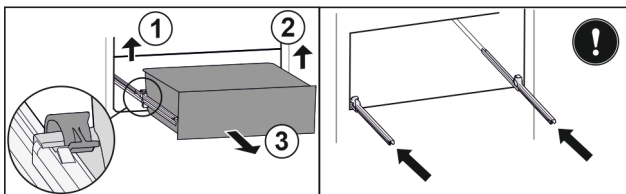

Fig. 191
- Lift left clamp and simultaneously pull drawer forwards on the left. Fig. 191 (1)
- Lift right clamp and simultaneously pull drawer forwards on the right. Fig. 191 (2)
- Remove drawer to the front. Fig. 191 (3)